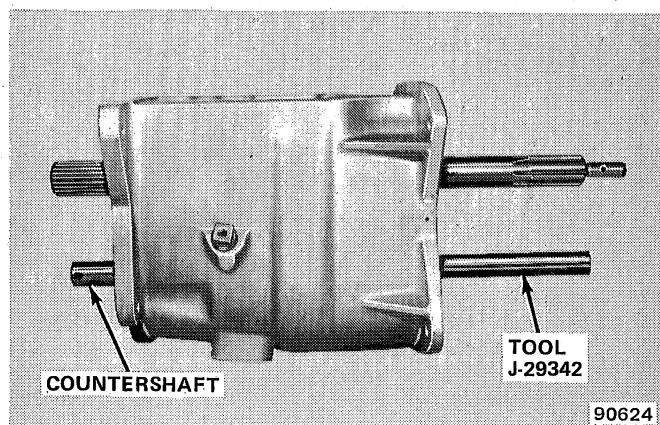

Fig. 2B-52 Countershaft Removal/Installation
(3) Drain lubricant from transmission case if not drained during removal.
(4) Remove countershaft using Arbor Tool J-29342 (fig. 2B-52). Tap countershaft out rear of case.
(5) Remove locating ring and retaining snap ring from rear bearing.
(6) Remove rear bearing using Puller Set J-25152 (fig. 2B-53).
(7) Scribe or punch alignment reference marks in front bearing cap and transmission case.
(8) Remove front bearing cap and gasket.
(9) Remove and discard front bearing cap oil seal. Use screwdriver to pry seal out of cap.